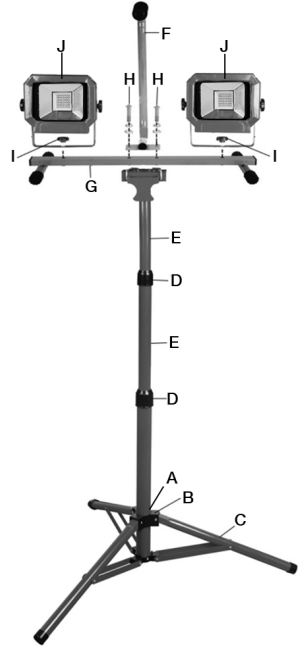

FIGURE 4
1. Loosen the tripod locking knob (A) Fig.4.
2. Push down the leg connector (B) until the legs (C) are fully extended, then firmly tighten the locking knob (A).
3. Adjust the height of the tripod by loosening the twist collars (D) and raising the center poles (E) of the tripod. Firmly tighten the twist collars when the tripod reaches the desired height.
1. Place the carrying handle (F) Fig.4 vertically on the base (G).
2. Use two bolts (H), flat washers and spring washers to secure the carrying handle on the base as shown in Fig.4.
1. Place the base (G) Fig.4 on a flat surface.
2. Use the lock knobs (I), flat washers and spring washers to secure both work lights (J) on the sides of the base as shown in Fig.4.